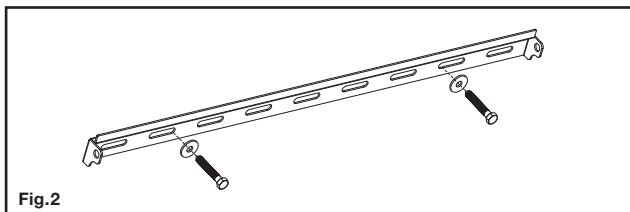

Fig.2
5. Attach the wall plate to the wall using the lag bolts (A) and lag bolt washers (B) provided (see Fig. 2). **Do not over-tighten these bolts and do not release the wall plate until both bolts are in place.** Ensure that the wall plate remains level after both bolts are secured.